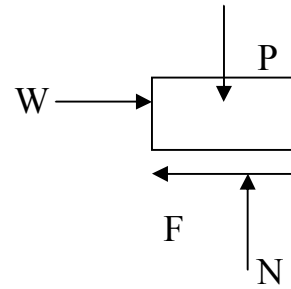

Figure 2
Friction Theory: Let a block of weight (W) rests on a horizontal plane as shown in (Figure 1) ,and a horizontal force (P) is applied on it as shown in (Figure 2) :